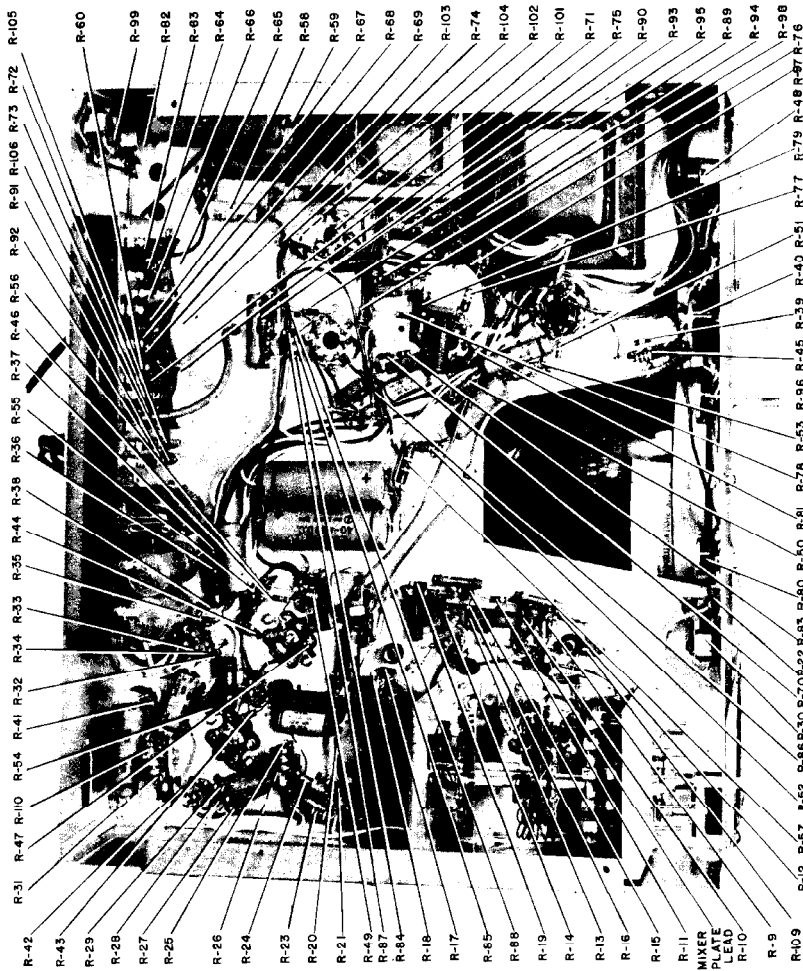

Figure No. 12. Resistor Locations — Bottom of receiver (cabinet removed)
3. Unsolder the mixer, 6AG5, blue plate lead from the terminal board located just outside the R.F. compartment. See Figure No. 12. Connect the plate lead to B plus (junction of R-12 and C-15) through a 4700 ohm resistor.